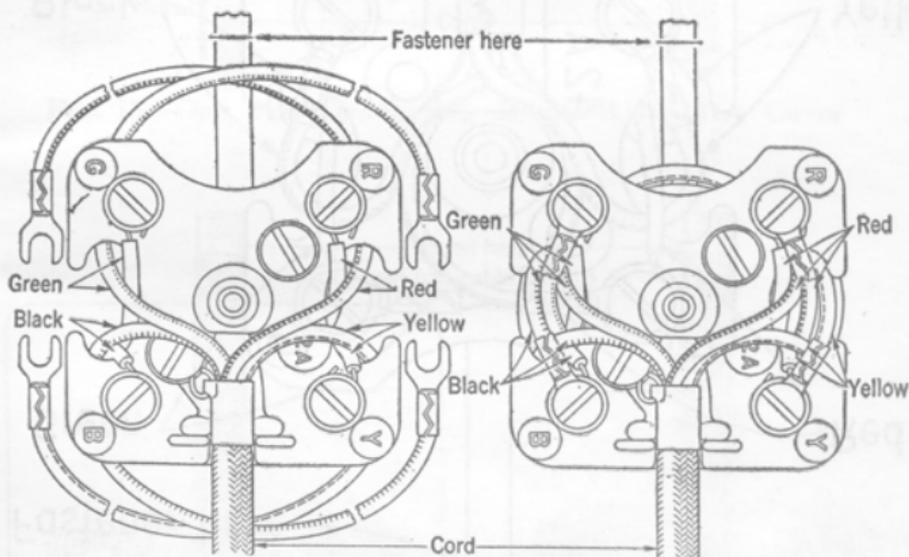

Fig. 9—Cording of 42-Type Block with Cord Having S Hook
5.03 Fig. 9 shows a 42A block cored with a cord having an S hook-type cord stay. Where the stay band interferes with placing the cover on the block, as may happen in the case of earlier type, larger diameter, jacketed cords and older 42A blocks, remove the S hook and push stay band inside the cover.